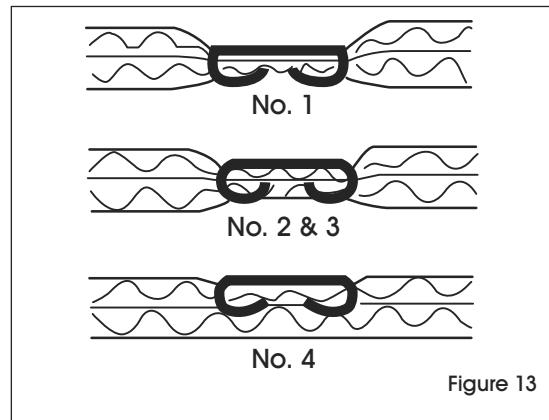

Figure 13
4. If set at No. 1 the teeth are at their deepest penetration. (See Figure 13)